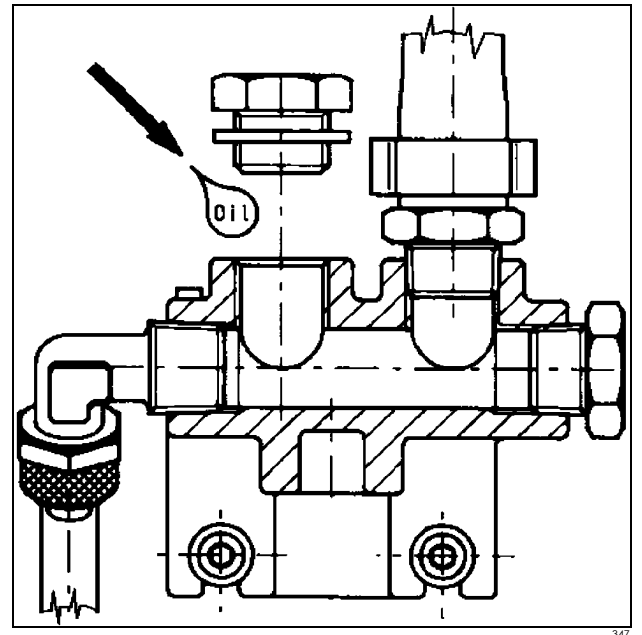

Fig.34
- Open the lubrication cap and drop a small quantity of oil (0.1 oz) (Fig.34).